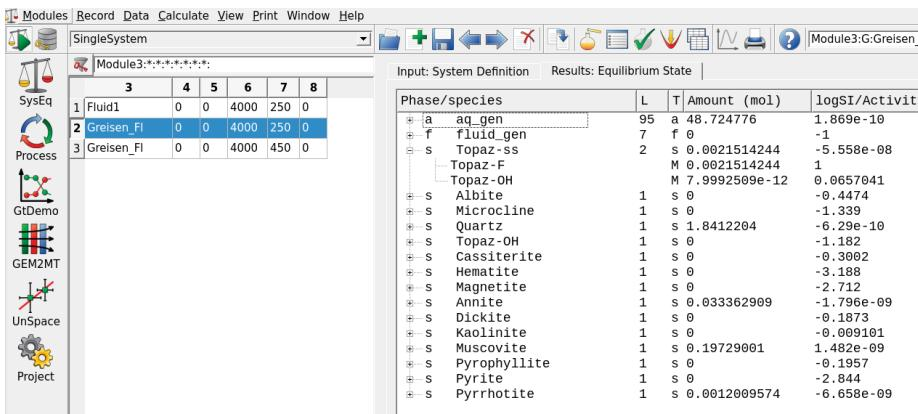

Figure 3.12: Equilibria Calculation mode showing the calculated composition of a topaz solid solution (Topaz-OH and Topaz-F).
- The last step is to switch to the **Equilibria Calculation Mode**, accept addition of the newly created phase and re-calculate the equilibrium of your two records created previously at 250 and 450 °C and 4000 bar. Now expand the Topaz solid solution, congratulation you just formed topaz! See also Figure 3.12.